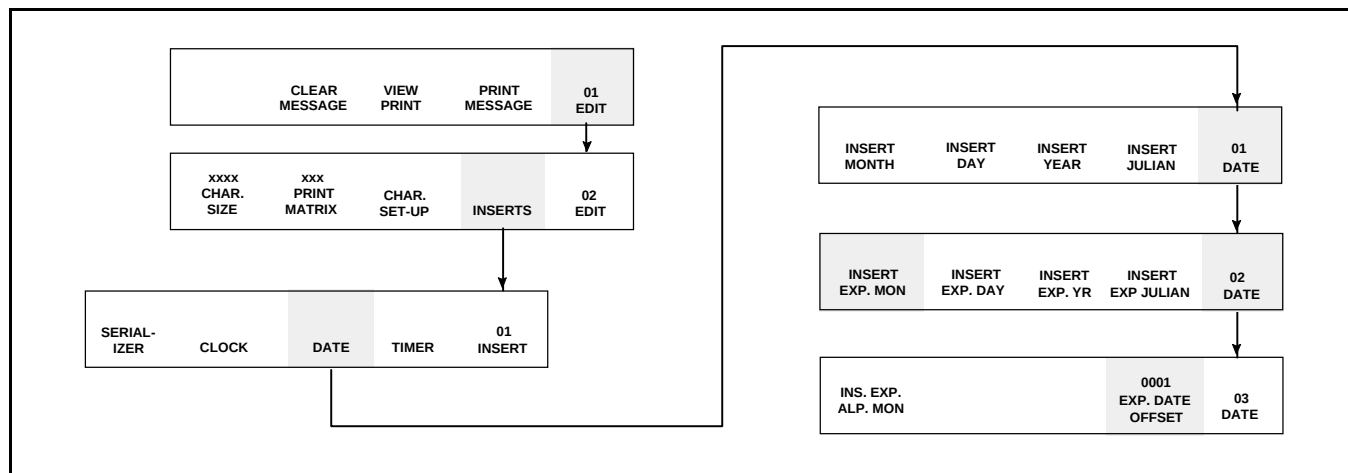

Figure 6-30. Accessing Frame <02 DATE>
1. Begin in Frame <02 DATE>. Refer to Figure 6-30.
4. Press **F5** to go to Frame <03 DATE>. (Refer to Figure 6-30).